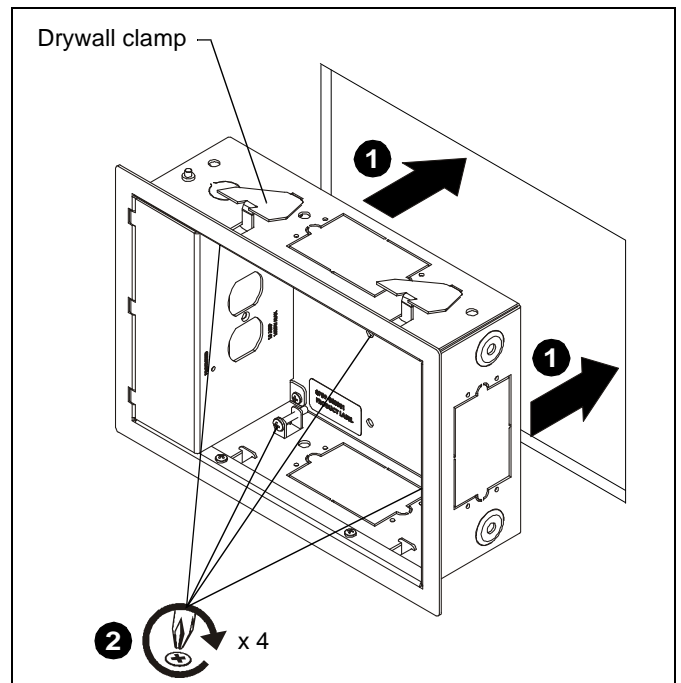

Figure 2
1. Insert PAC521N into drywall opening. (See Figure 2)
2. Tighten screws on the four drywall clamps so that they are locked in place in the drywall, and not laying flat against the PAC521N. (See Figure 2)